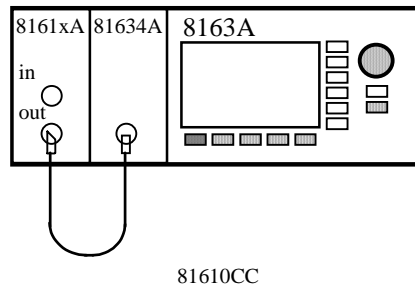

Figure 39 Relative Uncertainty of Return Loss - Calibration Setup
- 2 Setup the equipment as shown in Figure 39.